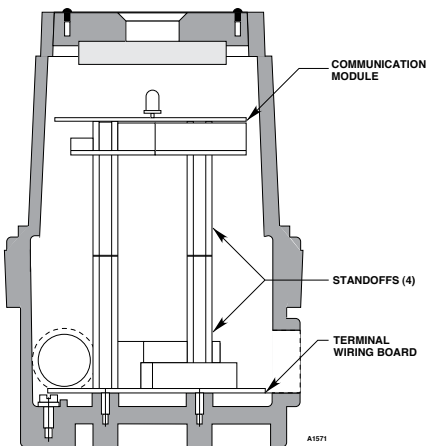

Figure 3-51—Printed Circuit Boards in Universal DCU
2. A communication module mounted above the terminal wiring board using the standoffs provided. See Figure 3-51.
Attach the communication module to the standoffs as shown in Figure 3-51. Connect the ribbon cable from the terminal wiring board to the communication module.